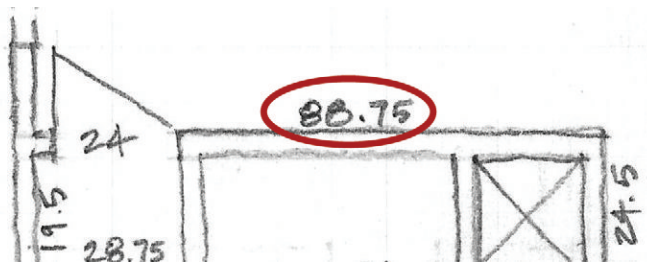

Figure 17.12 Record your measurements in decimal inches.
- ☑ Record the measurements only in inches, rather than feet and inches (Figure 17.12). This will ultimately make modeling in SketchUp easier. For instance, write **88.75**, rather than 7'-4-3/4". This will save you room on the page and keystrokes in SketchUp.